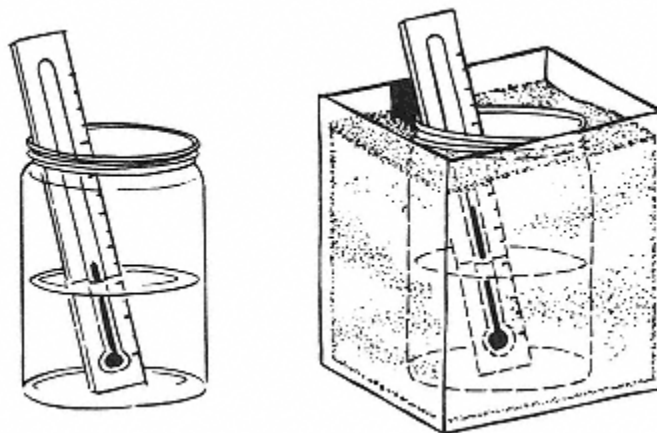

Figure 30.1
5. Stand one thermometer in each jar of hot tap water for one minute (see Figure 30.1).